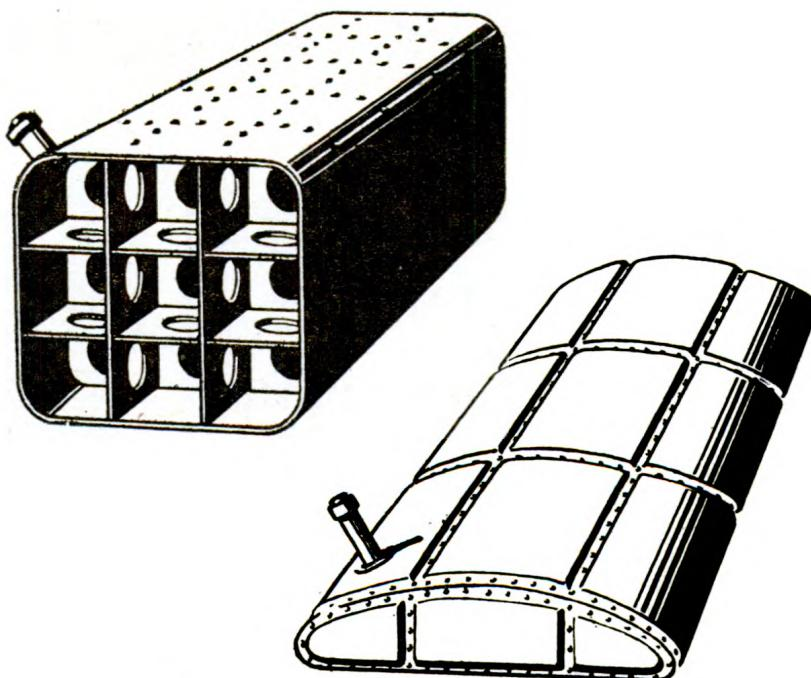

Figure 171.—Types of metal tanks.
**INTEGRAL TANKS** are a part of another structure, such as a wing, hull, or float. In this case the metal surface or skin of the structure serves also as the **SHELL OF THE TANK**. The advantage of this type of construction lies in the saving of weight and streamlining of design which results from the combination of functions of the structure. In repairing the integral tank, you are, of course, repairing the skin of the structure of which it is a part. In figure 171, you see examples of the two types of **METAL TANK**.